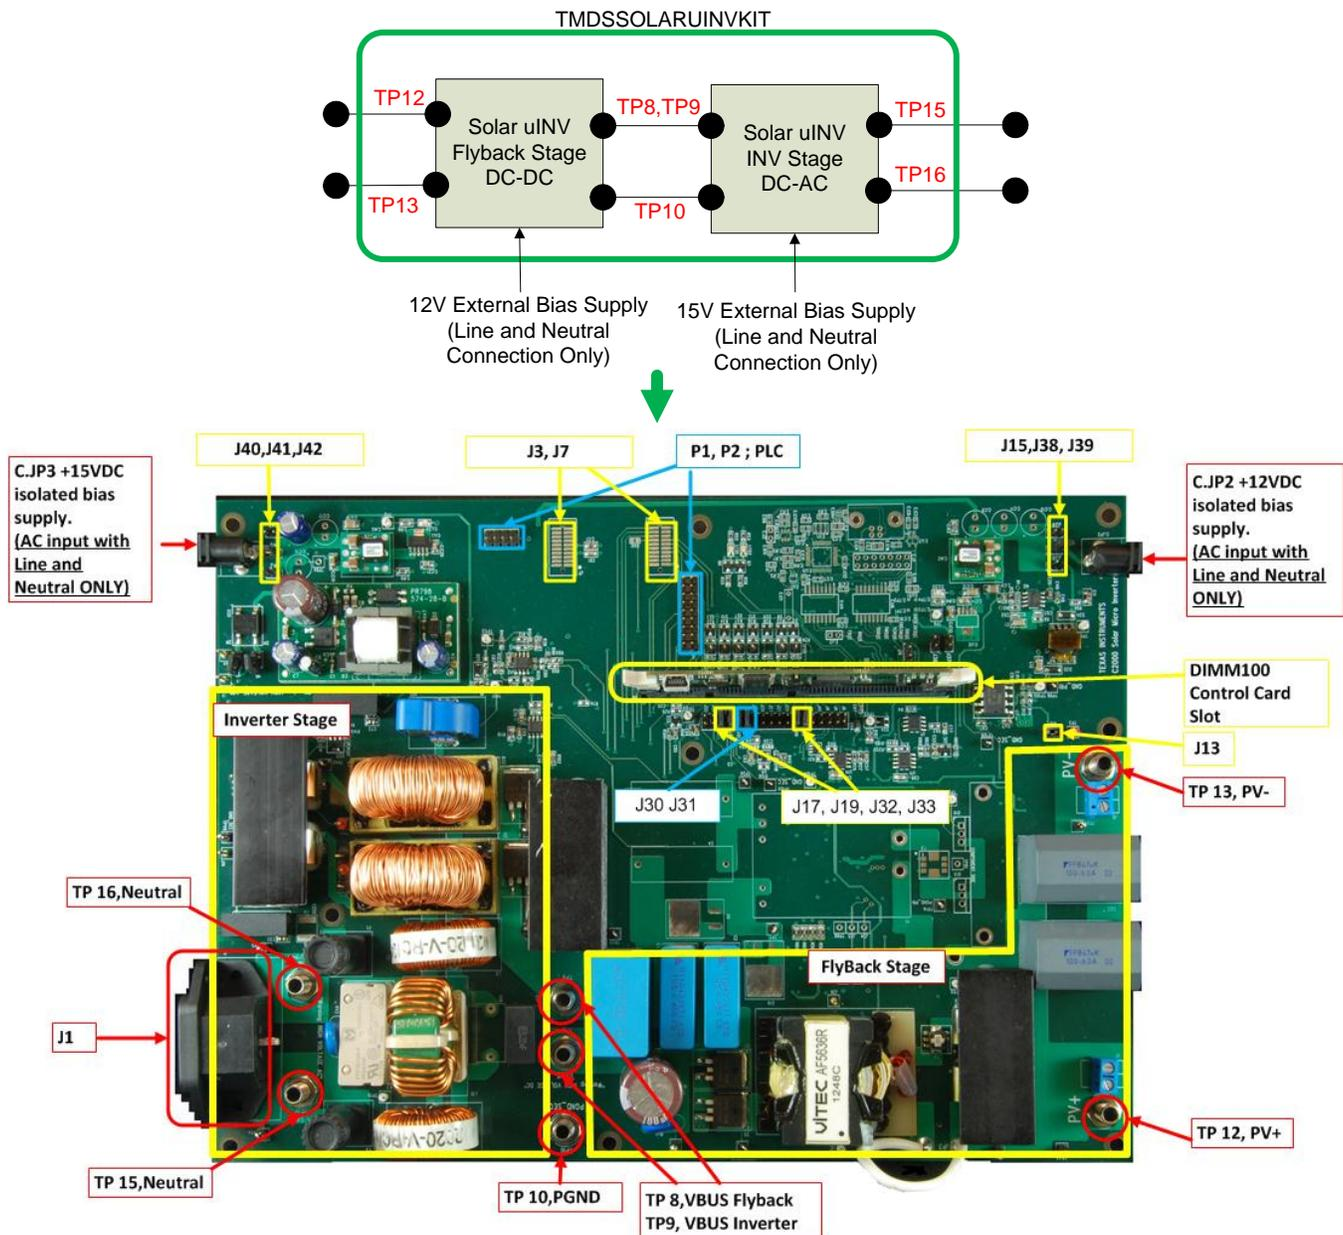

Figure 24. Jumper and Connector Locations on C2000 Solar Micro Inverter
1. Inspect and install jumpers. Before applying any power, ensure that these jumpers are configured properly. Table 3 lists the jumper configuration needed to run the GUI for the micro inverter EVM. Figure 24 shows some of the jumper locations on the PCB.